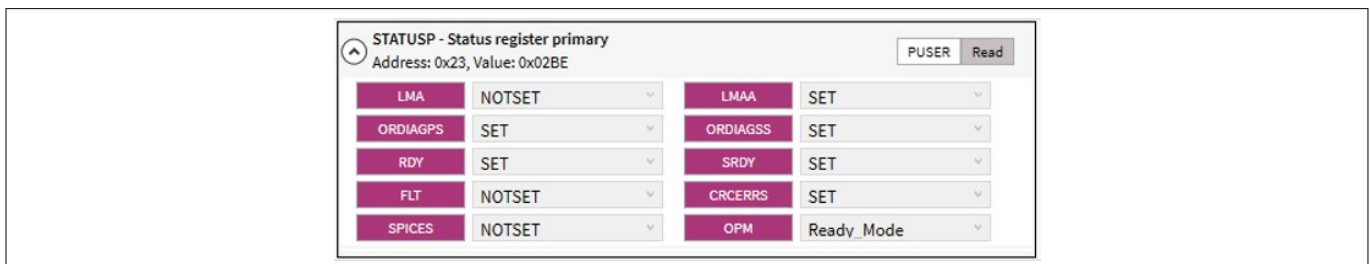

Figure 26 STATUSP panel confirmation – RDY, NFLT, OPM
- Confirm: **RDY** = SET (device is ready), **NFLT** = NOTSET (no fault occurred), **OPM** = Ready_Mode. See Figure 26. If not, press **RESET** button in Figure 25 or push buttons on PCB